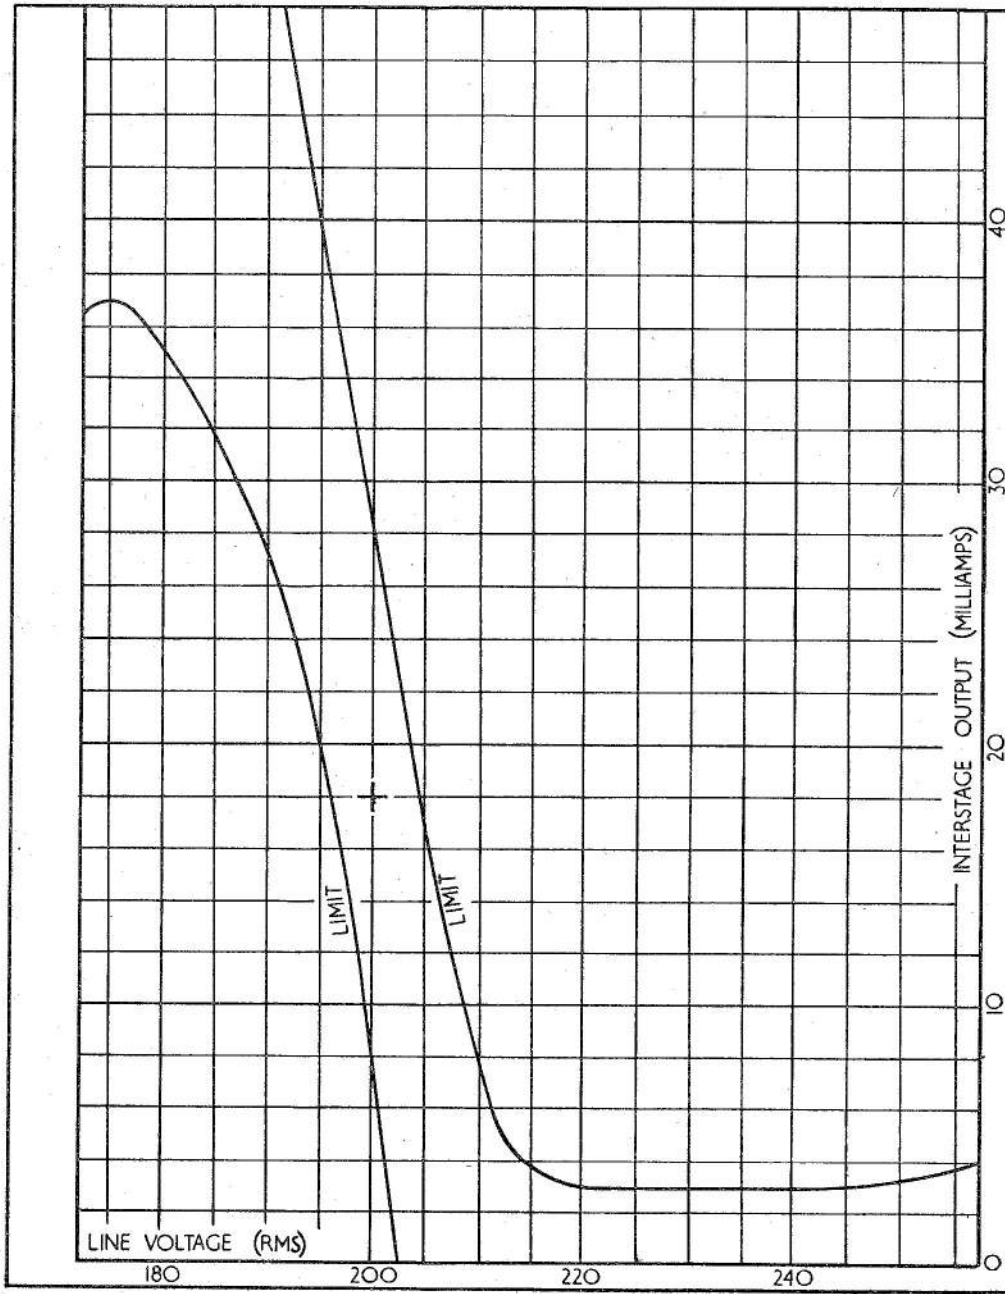

Fig. 7. Characteristic limits (reference unit)
27. With the unit connected as stated in paragraph 26 the reading of V1 is to be varied from 160 to 260 volts by means of the variac. Ten readings of V1 and A1 are to be taken in the voltage variation stated above and a static characteristic obtained which is to be within the limits indicated in fig. 7.